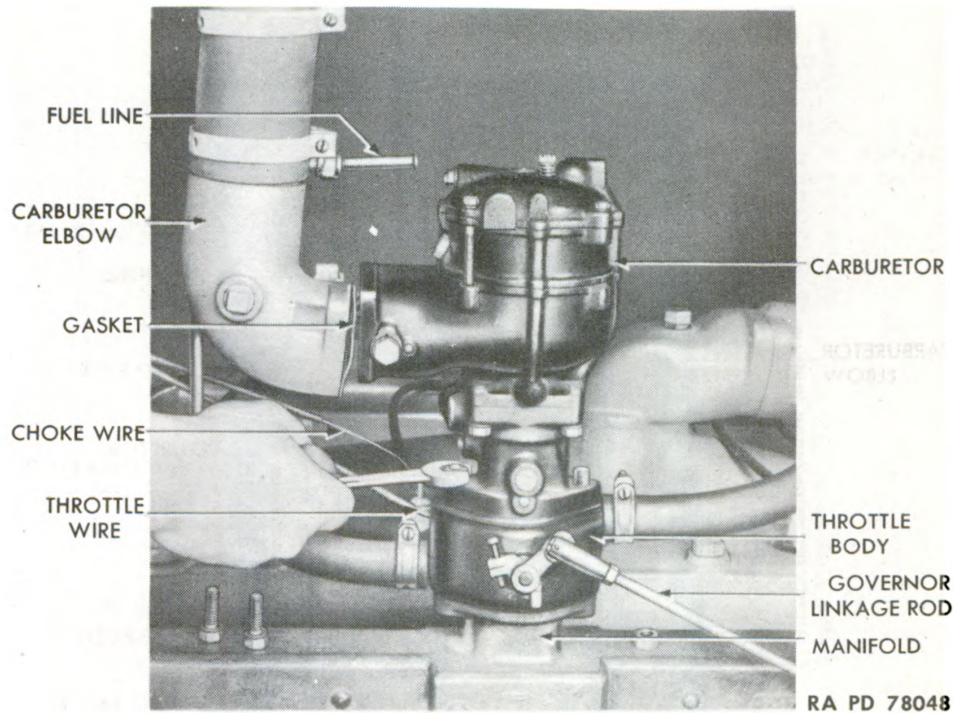
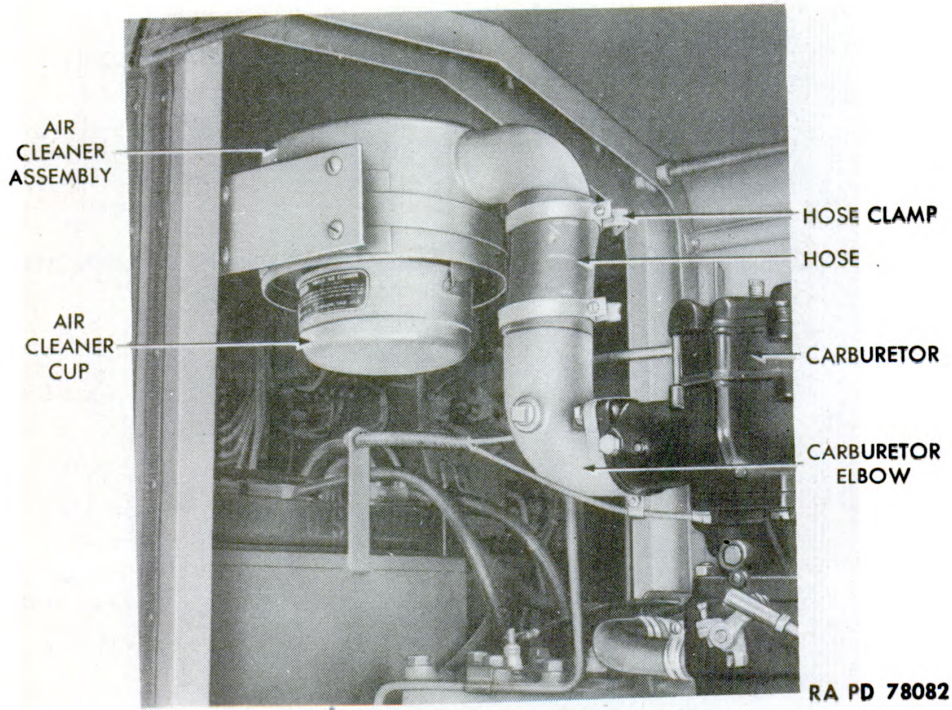
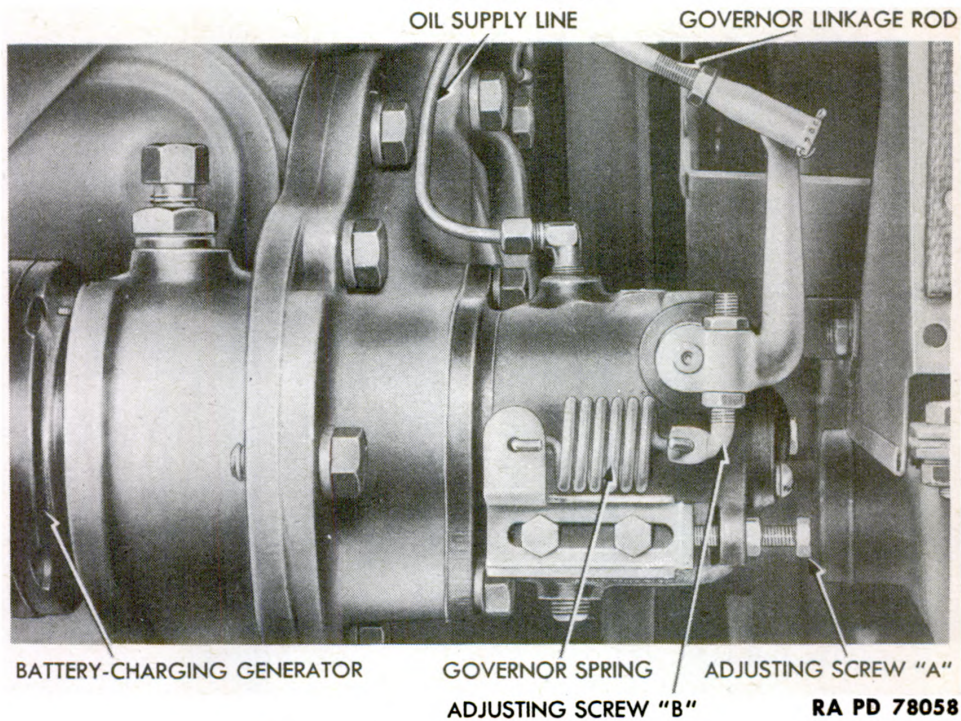

Figure 38 – Carburetor Removal
Figure 39 – Air Cleaner – Installed
Figure 41 – Governor – Installed
b. Functioning. Suction action of the fuel pump brings the fuel from the tank to the pump, which then forces it to the top of the carburetor, where it is converted into an air and fuel vapor mixture. The suction of the engine pistons pulls the air through the air cleaner into the carburetor where it picks up fuel vapor. The mixture is then drawn through the throttle body to the intake section of the manifold. The governor (fig. 41), operated from the timing gear, is set to hold the engine at a predetermined speed. The choke, operated manually from the instrument panel, regulates the air supply, and thereby makes the fuel mixture rich. The throttle, also operated manually from the instrument panel, regulates the amount of mixture supplied to the engine.
c. Removal (fig. 38).
(1) Loosen nut on compression fitting at back of carburetor, and disconnect fuel line from carburetor.
(2) Remove cap screws securing elbow to carburetor.
(3) Loosen screws securing choke, and throttle wire to carburetor, and remove wires.
(4) Unscrew nuts holding carburetor to throttle body and remove carburetor. **NOTE:** Remove nut at right side of carburetor first.
d. Installation (fig. 38).
(1) With gaskets in place on throttle body, place carburetor in position on throttle body and secure with two nuts. Tighten nuts evenly to prevent breaking lower carburetor flange.
(2) Place gasket between carburetor and elbow and secure elbow to carburetor with two cap screws.
(3) Attach throttle wire to throttle lever and choke wire to choke lever on carburetor.
(4) Carry compression fitting nut over the end of the fuel line, bring fuel line into fitting, and tighten nut to produce a firm joint. Start engine and check for gasoline leaks.
a. Description. The air cleaner (fig. 39) is the oil bath type and is mounted on the right center frame post above the rear of the engine. It is connected to the carburetor by a cast-iron elbow and a section of 2¼-inch rubber hose, 4 inches long. It has a removable cup which houses a deflector element. The upper section, or body, is filled with steel wire mesh. A removable filter element is attached between the cup and the body. The cup is readily removed to permit cleaning the elements inside.
d. Removal (fig. 39).
- (1) Loosen screw on hose clamp securing hose to air cleaner elbow.
- (2) Loosen nut on cap screw through clamp securing air cleaner assembly to cleaner bracket.
(3) Lift air cleaner assembly sufficiently to clear clamp, and remove.
e. Installation (fig. 39).
(1) With hose and clamps in position on carburetor elbow, place air cleaner assembly through clamp so that cleaner elbow enters hose.
(2) Tighten cap screw and nut on air cleaner clamp to secure cleaner to bracket.
(3) Position hose clamp on cleaner elbow end of hose and secure with screw furnished.
a. Construction. The governor (fig. 41) is a gear-driven, spring-loaded, flyball-type unit mounted on the right front side of the timing gear cover. It is connected through linkage with the throttle body valve.
(1) To increase speed, increase the spring tension by screwing in adjusting screw "A" (fig. 41). To decrease speed, decrease the spring tension. Be sure to tighten the lock nut after making an adjustment.